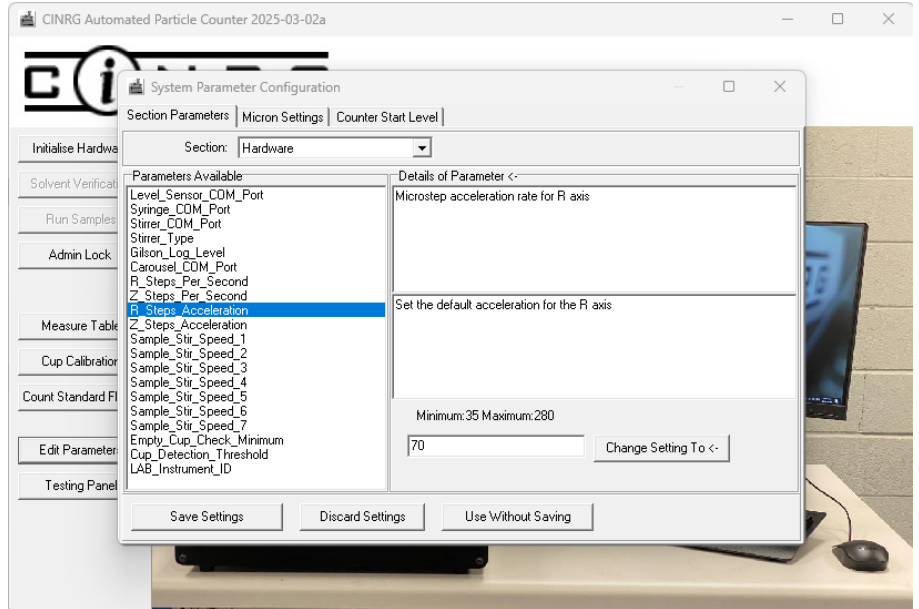

Figure 1 – The Section Parameters tab of the Edit Parameters dialog showing the hardware settings.
3. From the Section Parameters tab select the Hardware section (see Figure 1).